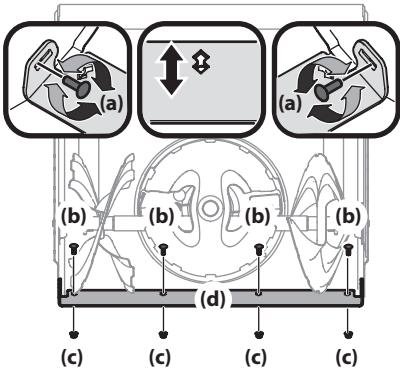

Figure 2-55
- Loosen rear skid shoe bolts (a) on both sides of auger housing and remove carriage bolts (b) and hex nuts (c) which attach shave plate (d) to the bottom of the auger housing. See Figure 2-55.
- Adjust the shave plate to one of 2 mounting positions. Reinstall and tighten the carriage bolts (b) and hex nuts (c) all bolts securely. See Figure 2-55.